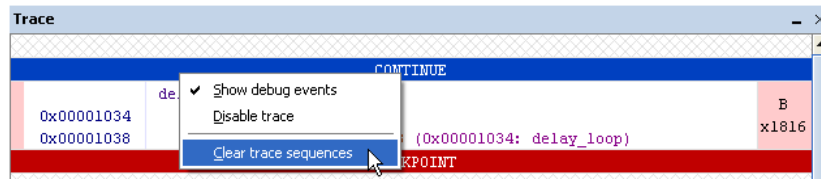

Figure 47. Clear the trace sequences.
2. For this part of the tutorial, first clear the trace by right-clicking in the **Trace** window and clicking **Clear trace sequences**, as shown in Figure 47.